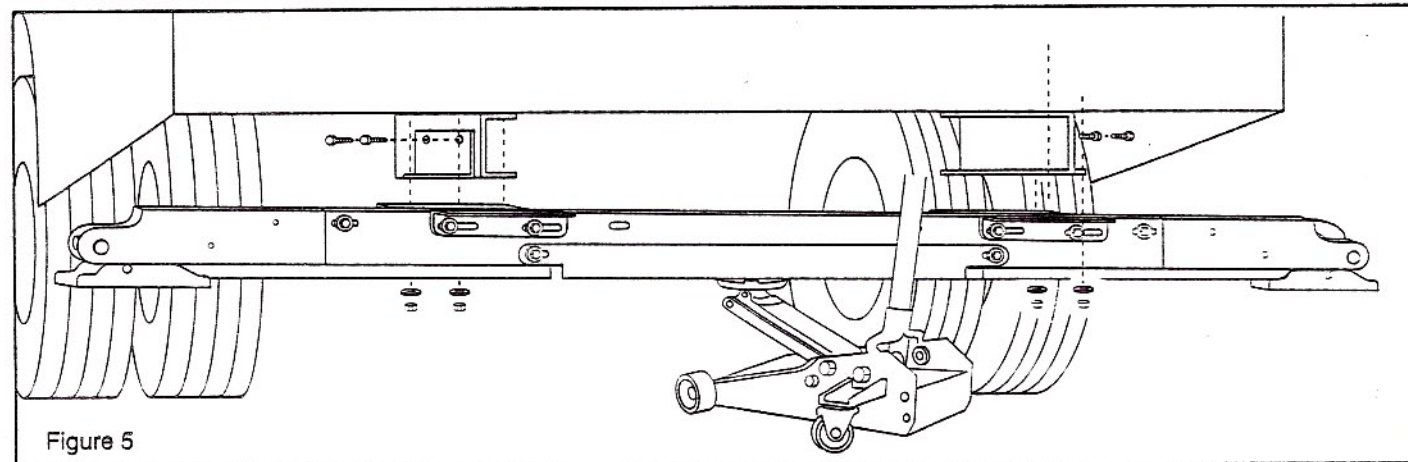

Figure 5
**NOTE:** If U-bolts cannot be used due to obstruction by under vehicle components, weld or bolt the optional angle bracket adapters to the outside webs of the frame rails as shown in figure 5. Secure the small angle brackets to the optional angle bracket adapters as shown in figure 5.